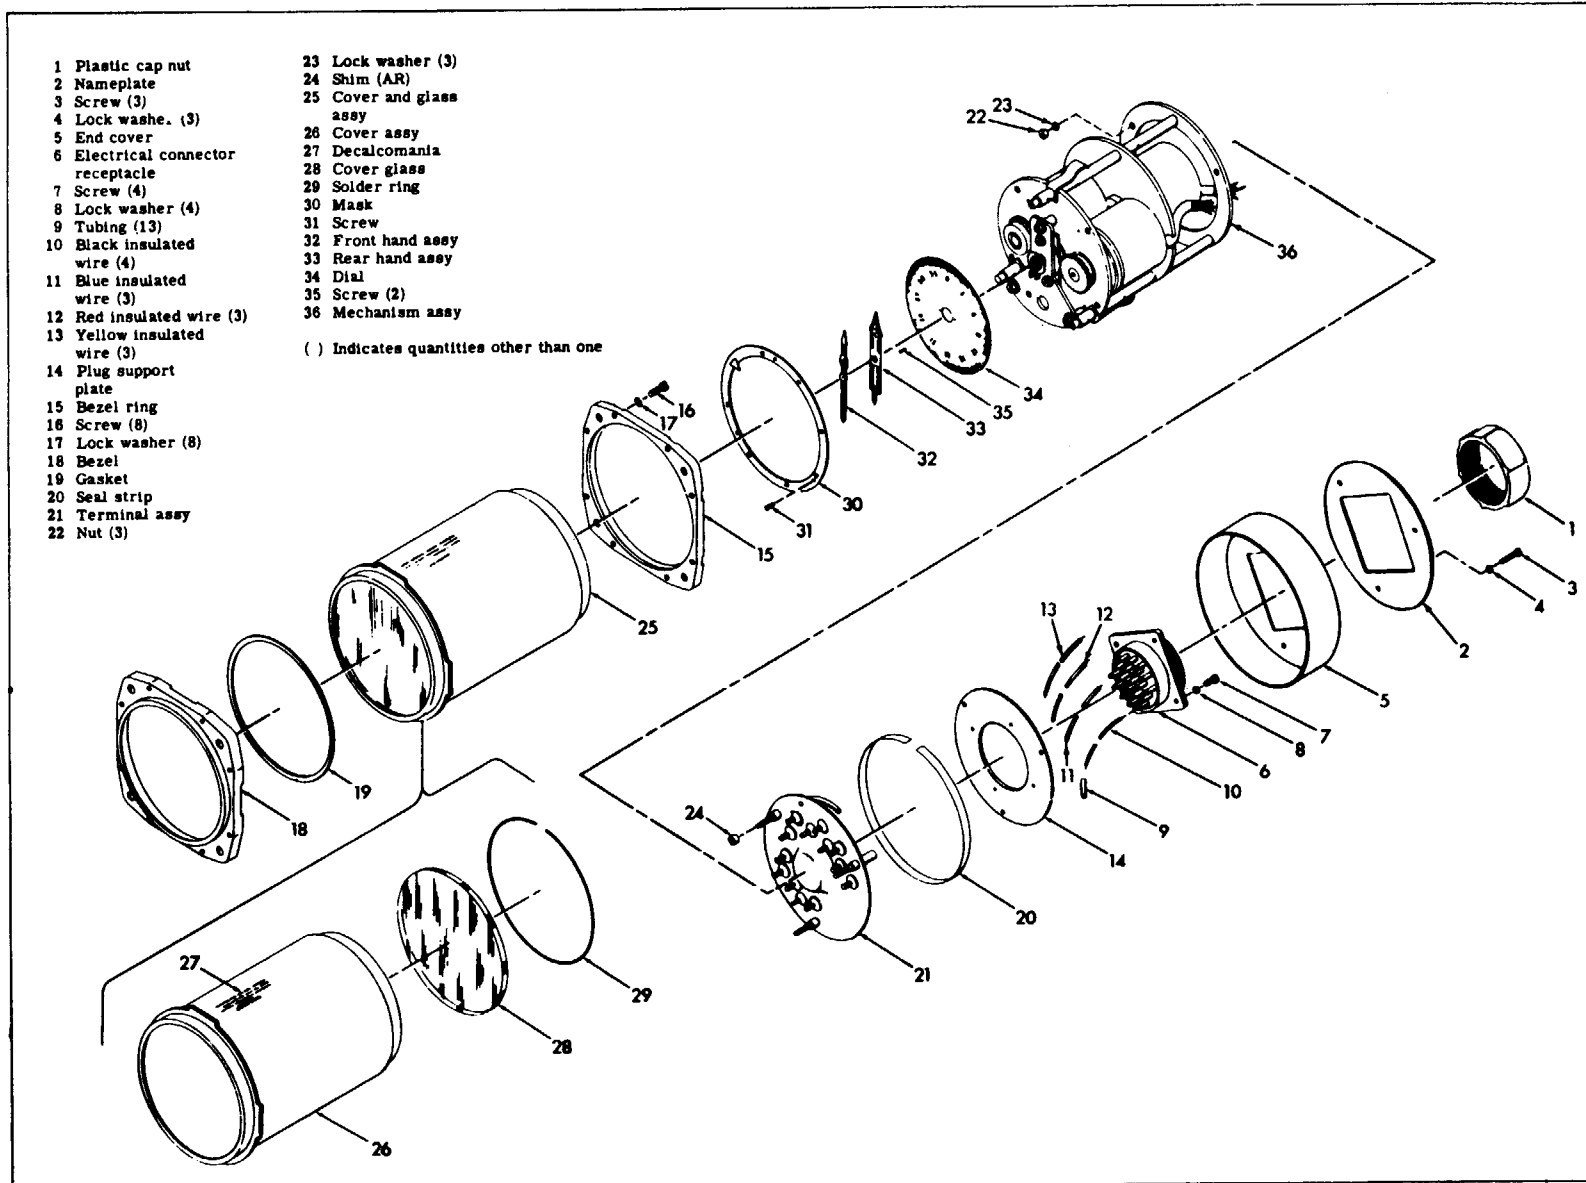
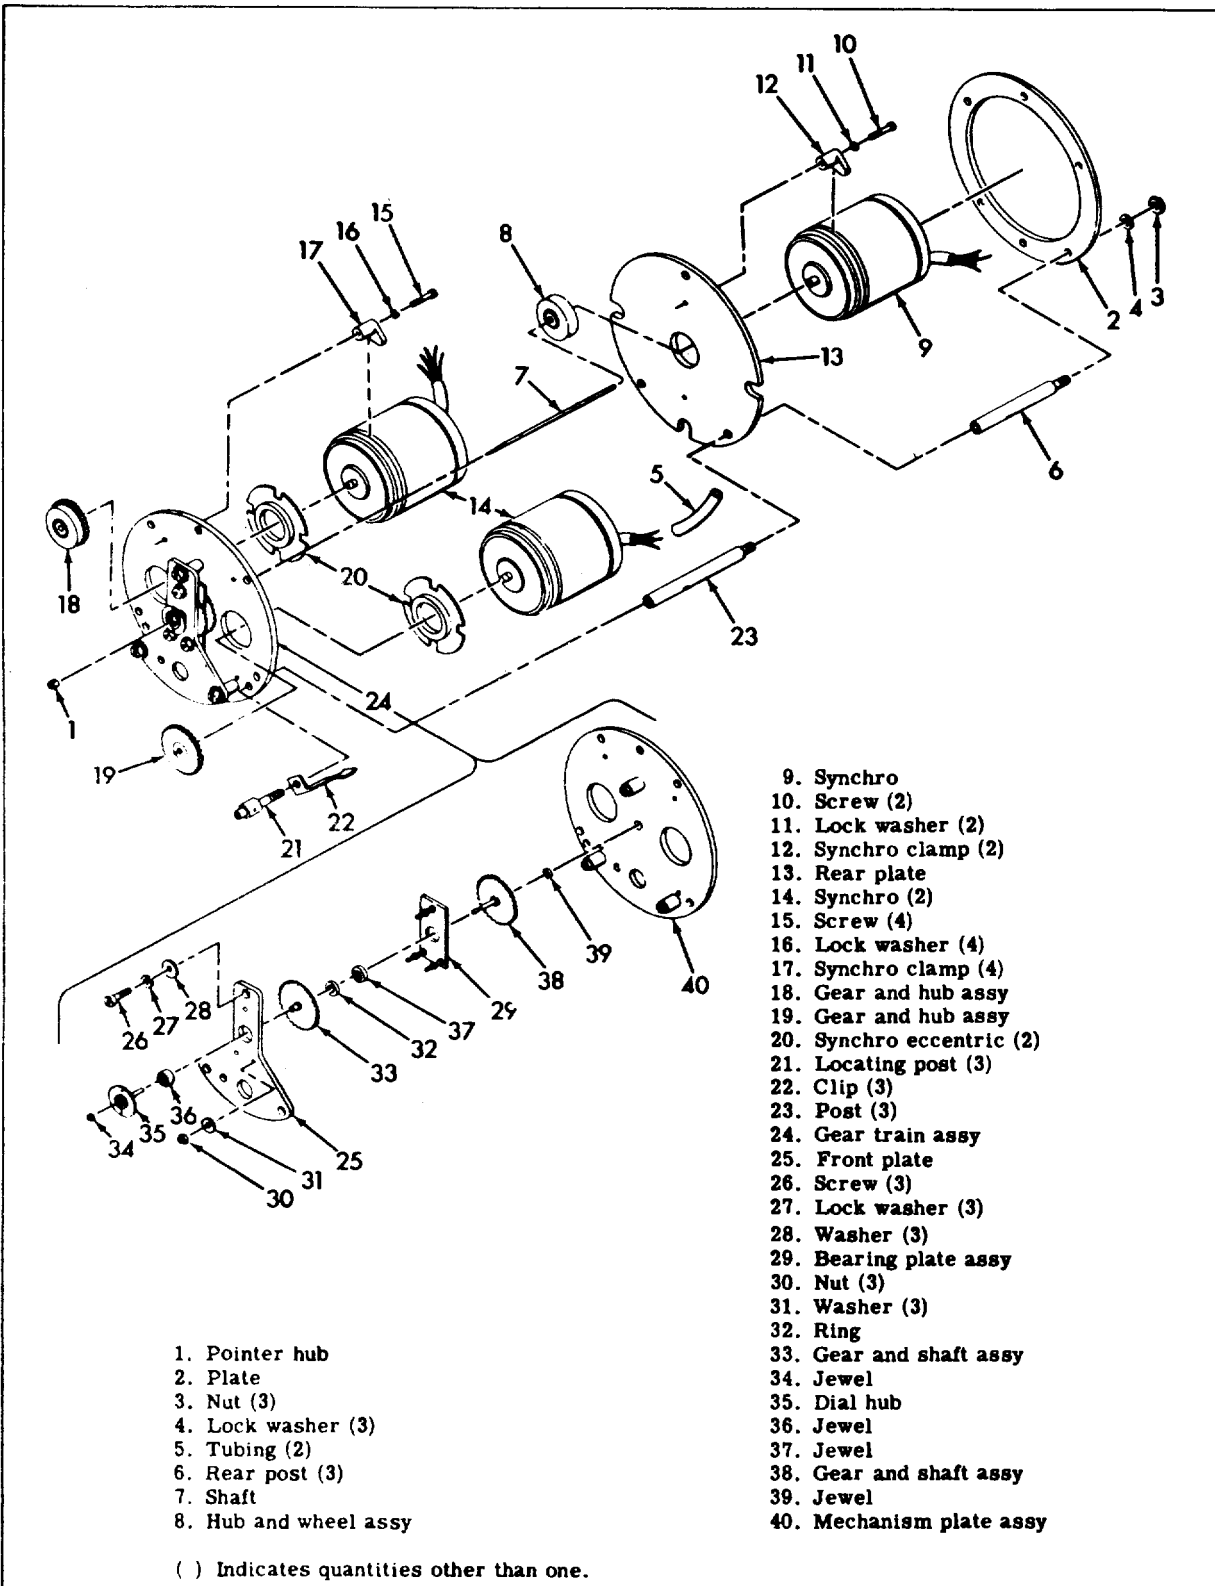

Figure 2-1. Main Assembly, Exploded View
Figure 2-2. Mechanism Assembly, Exploded View
**2-6. DISASSEMBLY OF NAMEPLATE, END COVER, AND ELECTRICAL CONNECTOR RECEPTACLE. (See figure 2-1.)**
a. Remove the plastic cap nut (1), three screws (3), and three lock washers (4), and place the instrument so that it rests on the electrical connector receptacle (6). Press down on nameplate (2) and end cover (5), and lift off the rest of the instrument.
b. Remove four screws (7) and four lock washers (8). Push back the 13 pieces of tubing (9) on four black insulated wires (10), three blue insulated wires (11), three red insulated wires (12), and three yellow insulated wires (13); and unsolder the wires from the electrical connector receptacle (6). Remove the receptacle and plug support plate (14).
**2-7. DISASSEMBLY OF BEZEL, TERMINAL ASSEMBLY, COVER AND GLASS ASSEMBLY. (See figure 2-1.)**
**2-8. DISASSEMBLY OF MASK, DIAL, AND HAND ASSEMBLIES. (See figure 2-1.)**
a. Remove three screws (31) and mask (30).
c. Remove two dial screws (35) and dial (34) from mechanism assembly (36).
**2-10. REMOVAL OF REAR SYNCHRO AND REAR PLATE. (See figure 2-2.)**
a. Remove pointer hub (1) from gear and shaft assembly (38). Remove three nuts (3), three lock washers (4), and plate (2). Remove two pieces of tubing (5). With index prism wrench QB3152-1, remove three rear posts (6), and lift off the rear plate and rear synchro with the shaft.
b. Remove shaft (7) from rear synchro (9). Remove two screws (10), two lock washers (11), and two clamps (12), releasing the synchro from rear plate (13). Remove hub and wheel assembly (8) after removing the shaft and before proceeding with the rest of the disassembly.
**2-11. REMOVAL OF FRONT SYNCHROS AND GEAR AND HUB ASSEMBLIES. (See figure 2-2.)**
a. Holding the two synchros (14) in position, remove four screws (15), four lock washers (16), and four clamps (17).
b. Rest the mechanism assembly on the three posts (23), Insert a small drift in the hub of gear and hub assembly (18) and tap gently with a plastic hammer to drive synchro (14) from the assembly.
c. Repeat the procedure described in step b, to remove the second synchro (14) from the gear and hub assembly (19).
d. Remove two synchro eccentrics (20). With index prism wrench QB3152-1, remove three locating posts (21), three clips (22), and three posts (23) from gear train assembly (24).
**2-12. DISASSEMBLY OF GEAR TRAIN ASSEMBLY. (See figure 2-2.)**
a. Remove three screws (26), three lock washers (27), and three washers (28). Lift front plate (25), with attached parts, from the shaft of gear and shaft assembly (38).